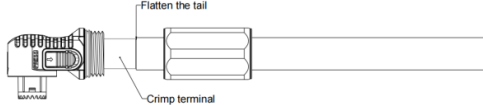

Figure 6-7-4 Crimp terminal
- 4) Crimp terminal, holding time of 2s, crimping size requirements as shown in Figure 6-7-4.